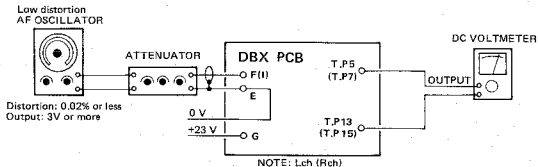

Fig. 5-19 Connections for DECODER adjustment (3)
6. Like Fig. 5-19, connect a DC voltmeter between TP5 and TP13 for L-ch (or TP7 and TP15 for R-ch), then note the reading on the DC voltmeter with an input signal of 1 kHz/-8 dB (308 mV).